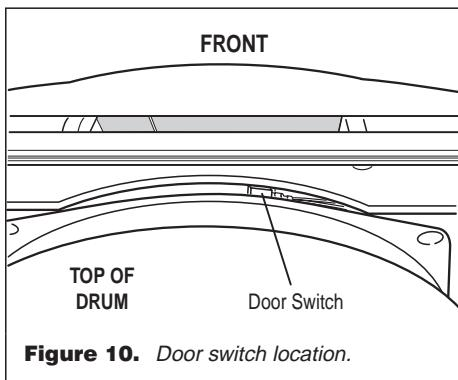

Figure 10. Door switch location.
- If any of the above conditions are not met, or if one of the dryer model codes listed above is displayed when the door is closed, check that the wires between the door switch and machine control electronics are connected. See figure 10 on page 7 for switch location, and see Accessing the Machine Control Electronics, page 7.